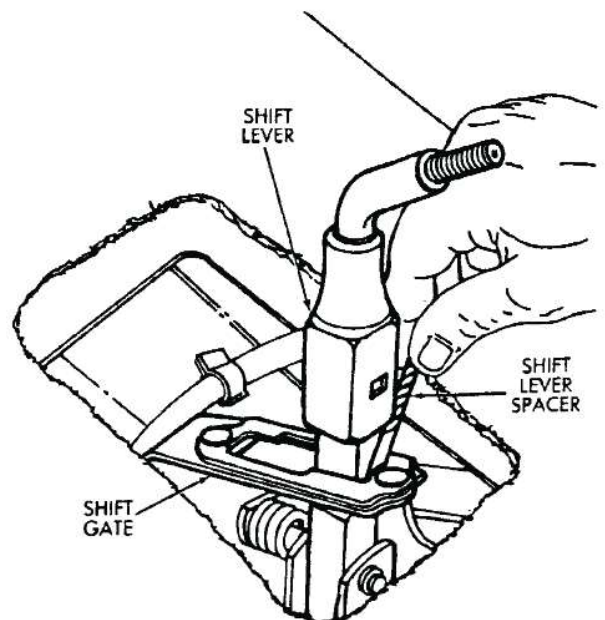

Fig. 1-3 Installing Shift Lever Spacer-80 Series
4. Insert a 3 mm (1/8) spacer between the shift lever and forward edge of the shift lever gate (Fig. 1-3). Secure the lever and spacer in place with tape or wire.